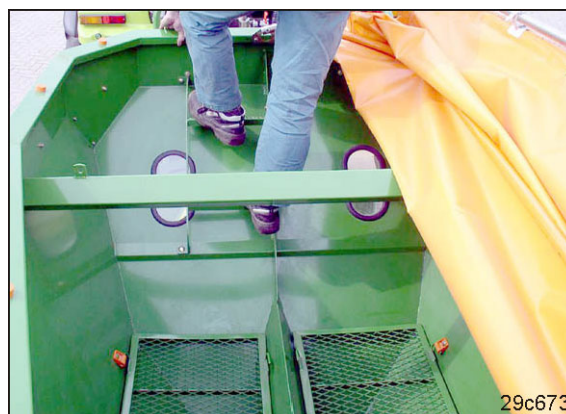

Fig. 118
2. Climb the steps (Fig. 118) into the seed hopper.